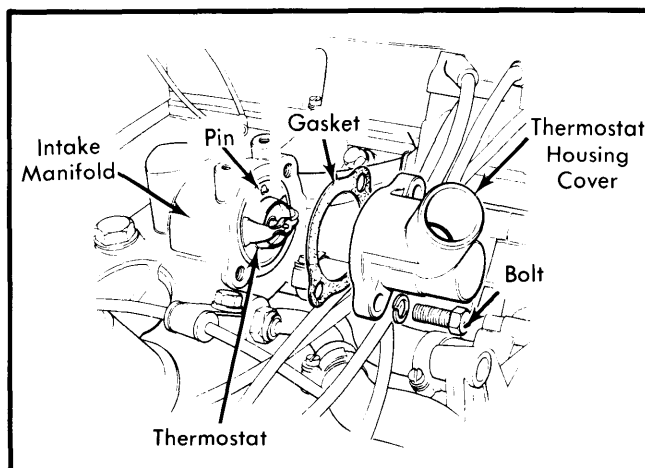

Fig. 12 Removing Thermostat and Gasket
**Removal** — Disconnect battery. Drain only radiator by disconnecting bottom hose. Remove top hose from thermostat housing. Remove 2 bolts and lift thermostat housing cover from intake manifold. See Fig. 12. Remove thermostat and gasket.
**Installation** — Clean gasket mating surfaces, and install thermostat with pin at 12 o'clock position. See Fig. 12. Install new gasket and position thermostat housing cover. Install and tighten bolts evenly. Connect hoses and battery.